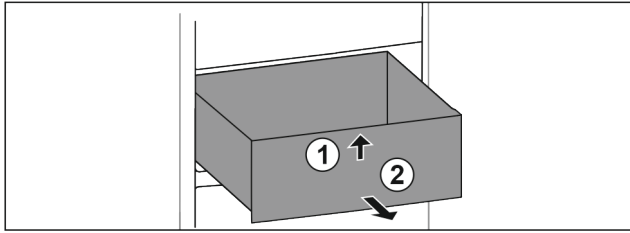

Fig. 63
- ▶ Lift drawer at the front. Fig. 63 (1)
- ▶ Remove drawer to the front. Fig. 63 (2)